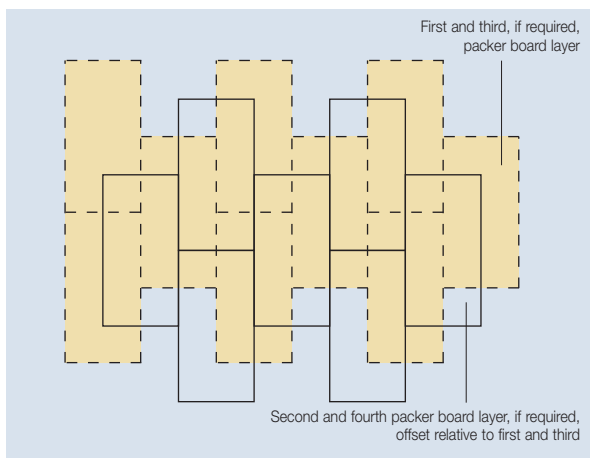

Figure 5 Offsetting of Multiple Packer Board Layers
- In all cases, the layers should be horizontally offset relative to each other so that, as far as possible, the board joints in any two adjacent layers do not coincide with each other (see Figures 5 and 6).